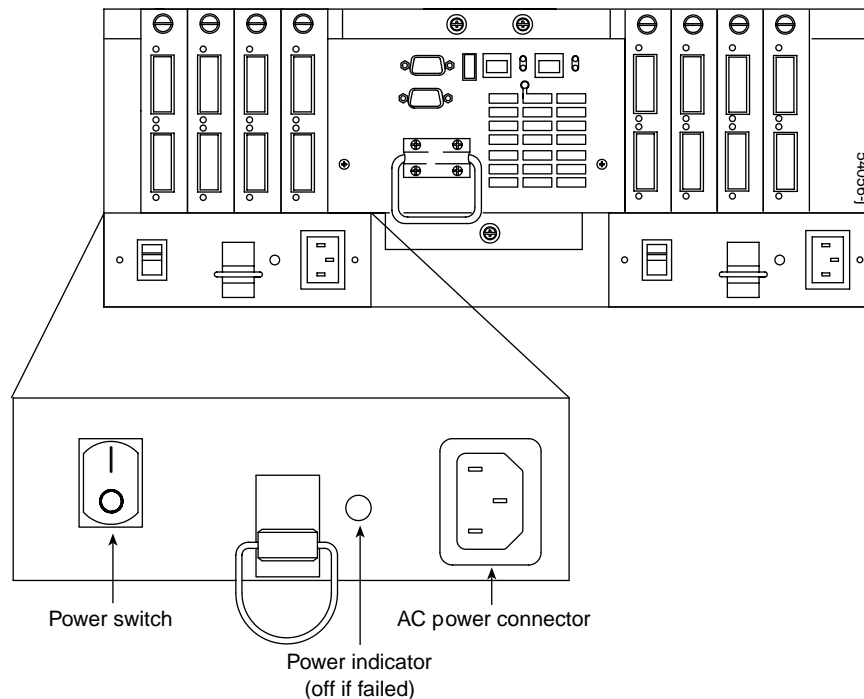

Figure 4-11 Power Supply Switch, Connector, and Indicator
2. Check the power indicator on the power supply at the rear of the controller enclosure (see Figure 4-11). The green power indicator on the failed power supply will be off.
3. Turn off the power switch and unplug the power cord from the failed power supply (see Figure 4-11).
8. Plug in the power cord and turn on the power (see Figure 4-11).